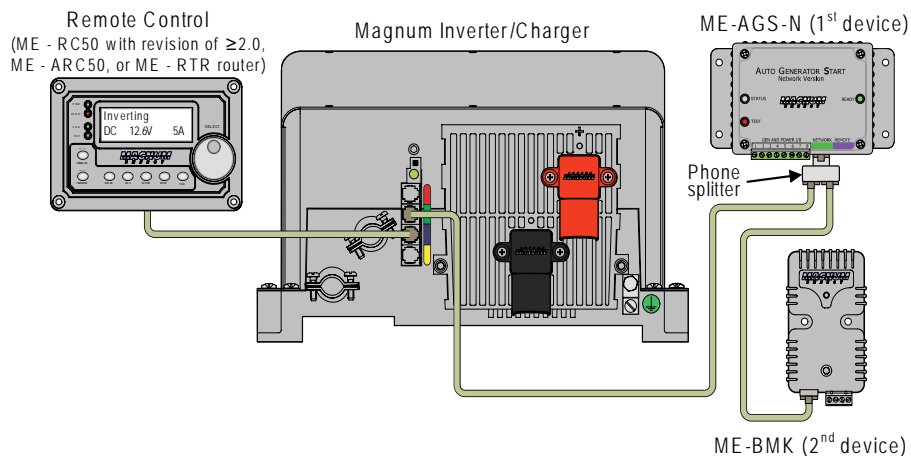

Figure 2-5, Multiple Network Devices - Daisy Chain Configuration
- **Daisy Chain Configuration** - In this arrangement, the network devices are linked in a series (see Figure 2-5). If using this configuration, the ME-AGS-N must be the first device connected to the inverter's Magnum Net or Network port - followed by the ME-BMK.